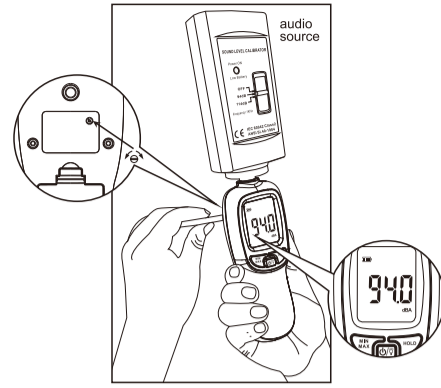

Figure 1 (Diagram of audio source calibration)
2. Turn on the power switch of standard sound source (94 dB@1KHz), use straight screwdriver to adjust potentiometer located in the opening hole within the machine stick, and make LCD display 94.0 (referring to Figure 1).